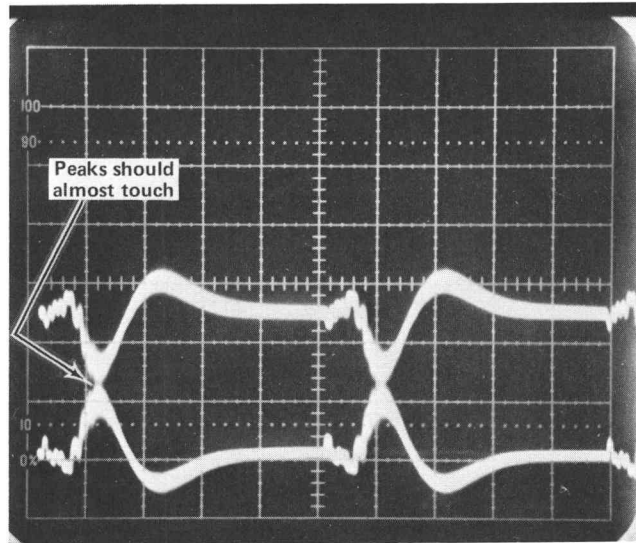

Fig. 4-18. Hard Copy Threshold adjustment waveform. 0.5V/division vertical; 0.5 μ s/division horizontal.
e. Switch the Terminal to LOCAL. Then press PAGE and COPY and check for an oscilloscope display as in Fig. 4-18. The peaks of the most prominent pulses should almost touch.
f. Adjust R167—Hard Copy Threshold (on the Hard Copy Amplifier board, Fig. 4-17) until the peaks almost touch as in Fig. 4-18. The separation may vary with the position of the scan bar on the screen. If so, adjust for minimum separation of the closest pulses. The waveform may vary slightly between specific units.